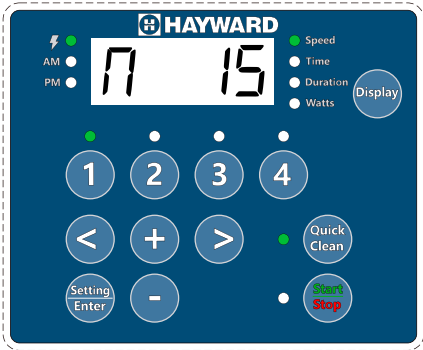

Figure 8
- 2. Press Setting twice. The “Duration” parameter LED will blink while editing. **See Figure 8.**